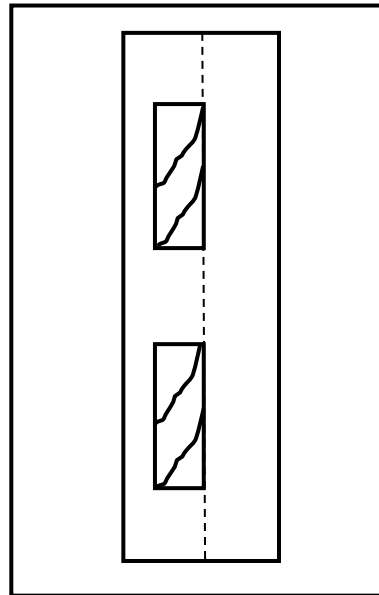

FIGURE 6.2
- D casement fasteners. (1)
6.2 FIGURE 6.2 below shows an assembled view of a timber joint.